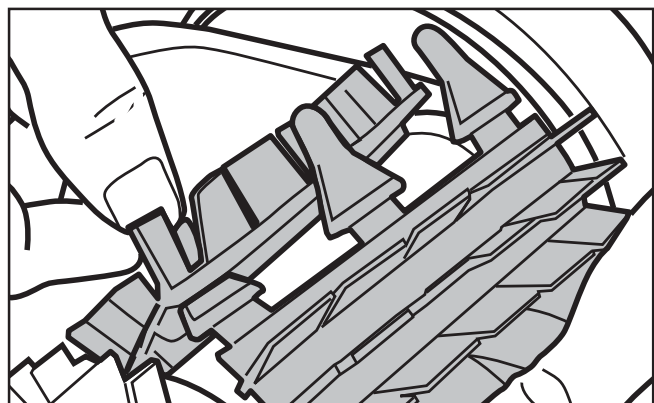

Figure 17. Pull Tabs Through Each Slot
- Thread each tab into the slot provided and gently feed it through until the heel comes out at the other side of the slot. Refer to Figure 17.